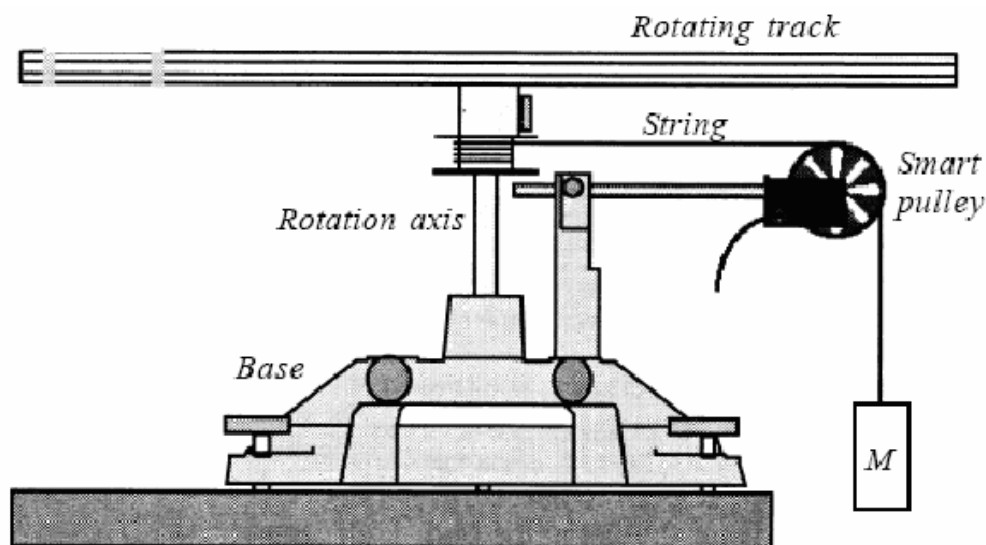

Figure 11.4: Applying a known force to create torque
- Leave the ball in the catcher.** Remove the rotary sensor and attach a smart pulley as shown in Figure 11.4. Unplug the two Photogate sensors and the rotary sensor, and plug the smart pulley into Digital Channel 4. Measure the diameter of the spool on the axis and record its **radius** r (with a precision of 3 sig fig) in Table 11.2.